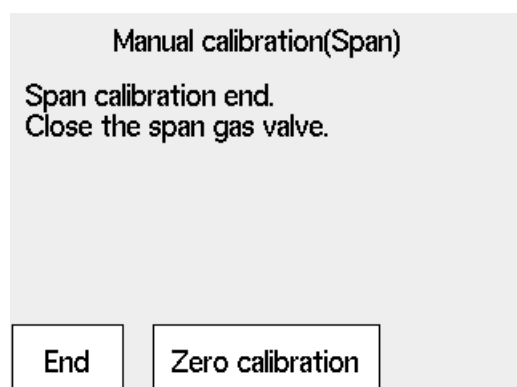

Figure 6.20 Span Calibration Complete
- (5) After the measured value has stabilized, press the [Enter]. The screen of Figure 6.20 appears. At this point, the measured value is corrected to equal the span gas concentration setting. Close the span gas flow valve. The valve lock nut should be tightened completely so that the span gas does not leak.